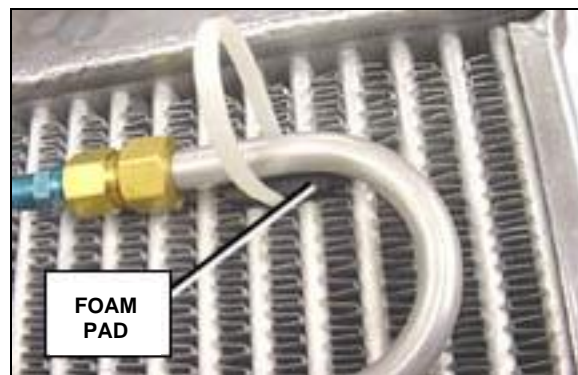

Figure 6
5. Place provided foam pads (19) under distribution bar and run provided zip ties (20) through intercooler core and secure bar to core (see Figure 6). It is recommended to secure the bar in at least 2 locations.